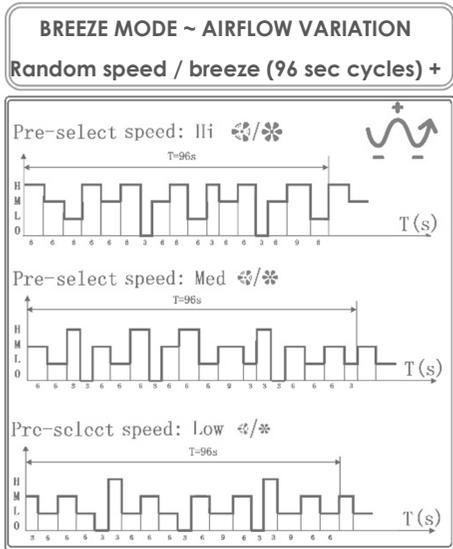

FIG. 5
**D. Breeze Mode ~ Airflow Variation (Fig. 5):**